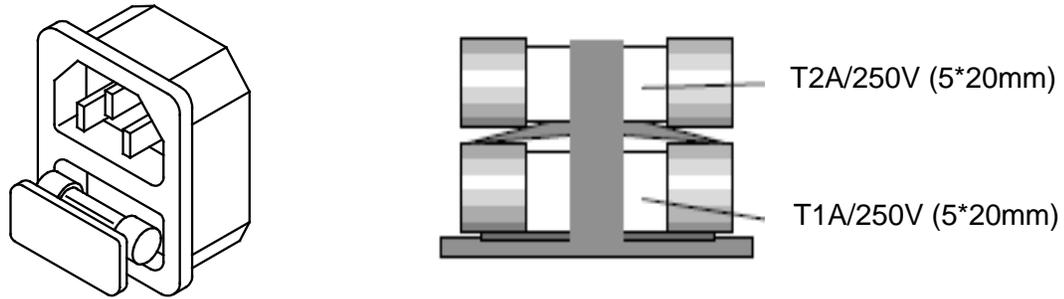
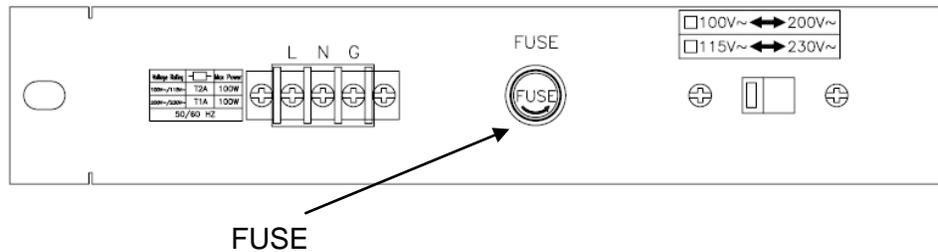

Fig 2-3 33431G FUSE RECEPTACLE
Fig 2-4 33432G FUSE RECEPTACLE
- 2.3.2 The AC line fuse is located below the AC line receptacle 33431G see Fig 2-3,33432G see Fig2-4. Use a small screwdriver to extract the fuse holder, to change a new one. Change an appropriate specification fuse which indicated Table 2-1.